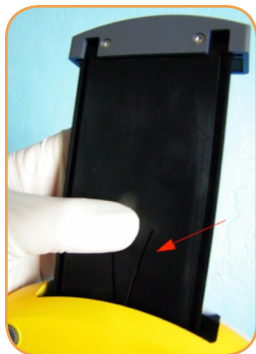

FIGURE 128
4. Lift the reader to display the bottom of the drawer slide (Figure 128).